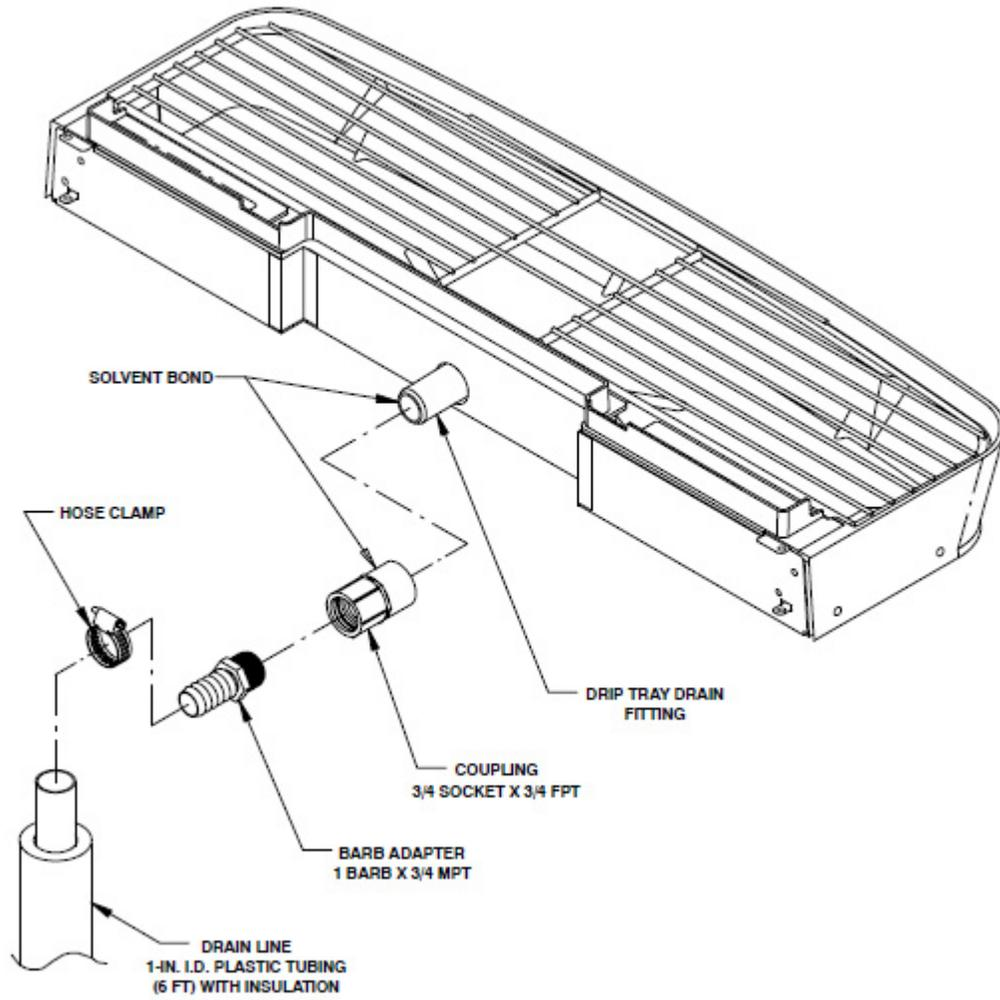

Figure 4. Drip Tray Drain Assembly
3. DRIP TRAY DRAIN ASSEMBLY (see Figure 4): Route the drain tube to an open drain with the end of the tube above the "flood" level of the drain. Use the tubing, fittings, clamps, and insulation provided with the Dispenser to assemble the drain. The completed drain line *must* pitch continuously downward and contain no "traps" or improper drainage will result.